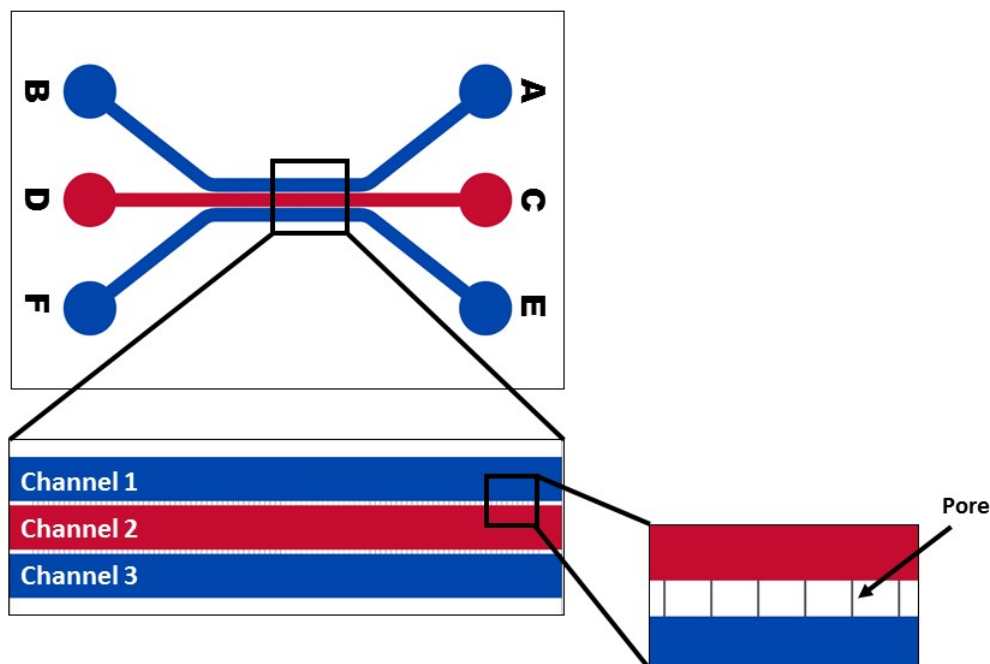

Figure 2. A schematic of inlet and outlet ports A-F on a SynVivo linear device.
1. Unclamp one outlet port of the center channel (the red Channel 2 shown in **Figure 2**). Leave the other channels clamped.